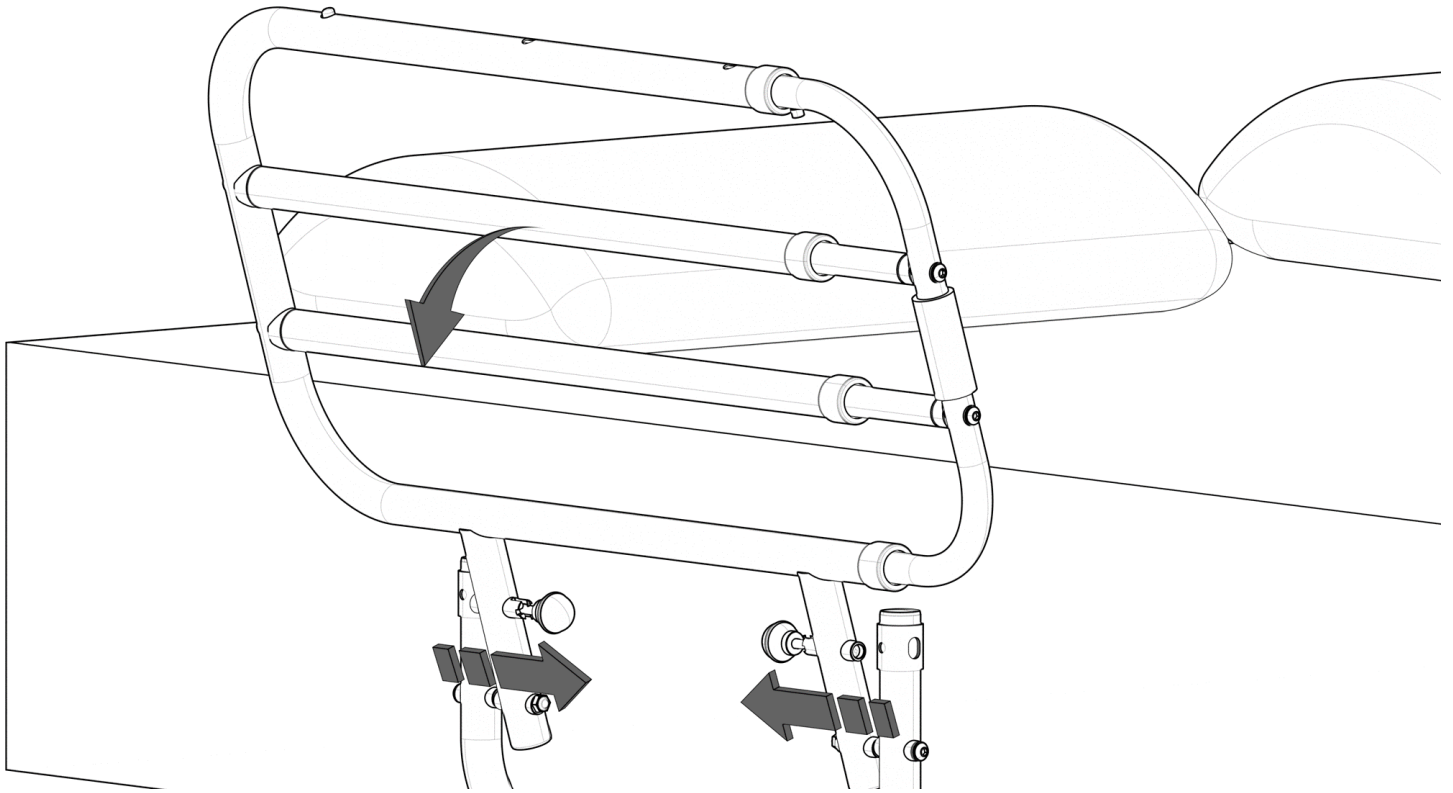

FIGURE 6
6. To lower bed rail, pull Knobs and rotate the rail down as shown in *FIGURE 6*.